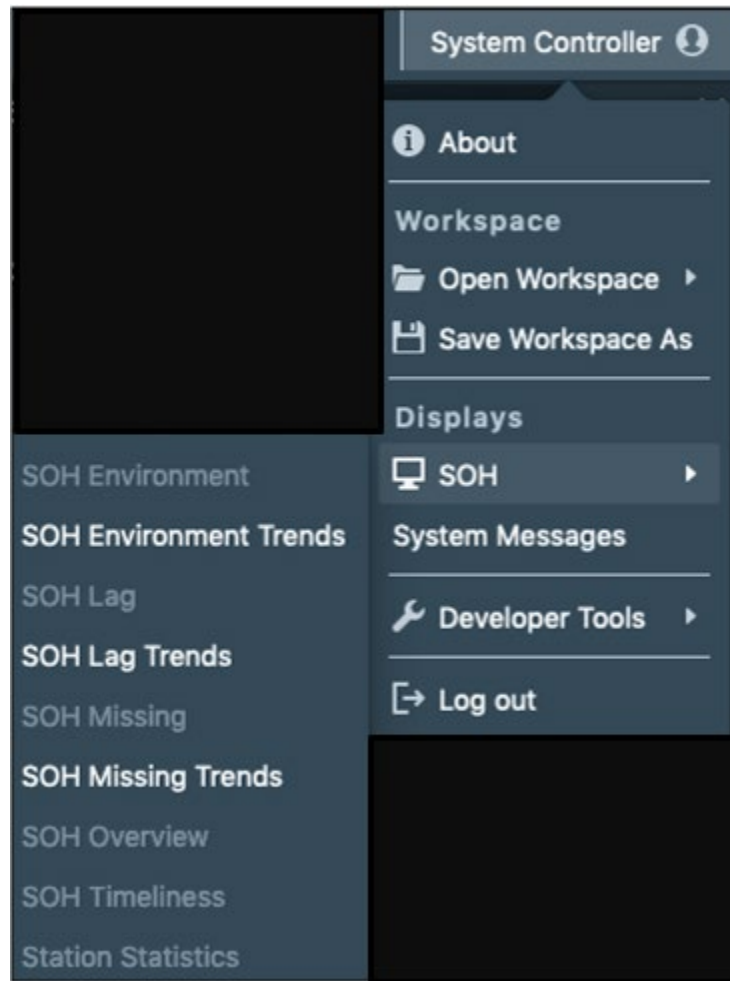

Figure 7. SOH Menu Options.
- 6) SOH – Adds workspace displays. Only one display instance can be open at a time. Displays already open are grayed out within the SOH submenu. For example, in Figure 7, the SOH Overview display is grayed because it is already open.